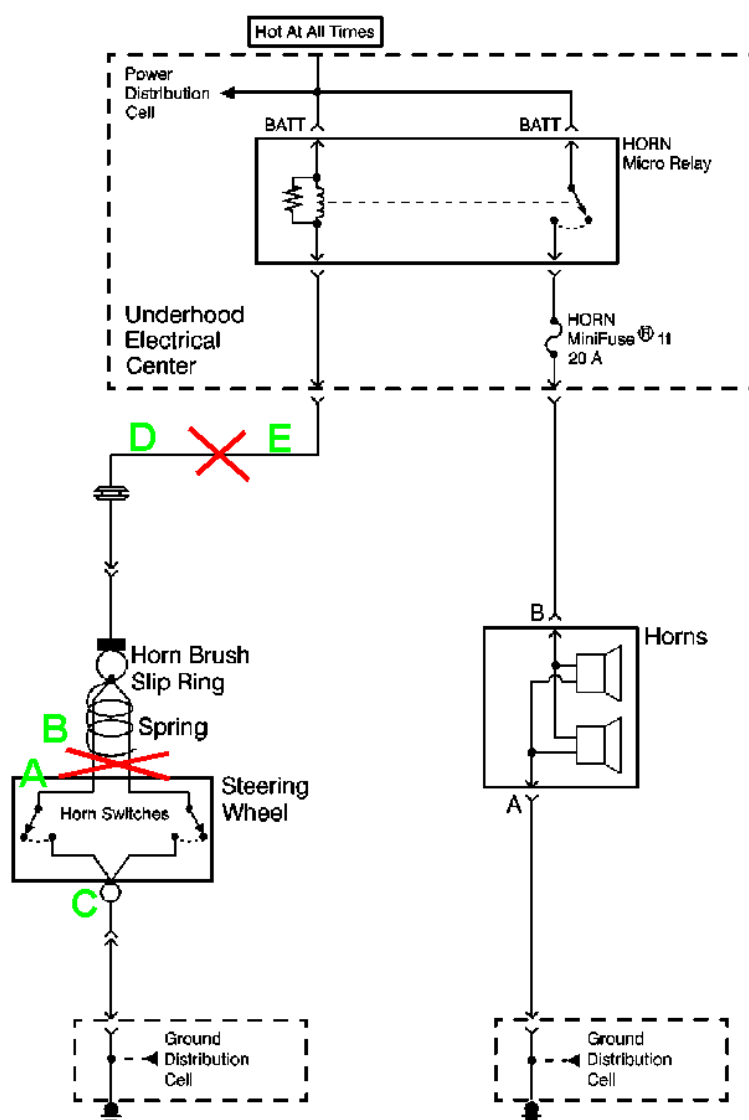

Figure 14: Typical Horn Wiring
The use of this paddle shifter assembly without extra wires from the steering wheel to the dash requires the vehicle to be equipped with a typical horn wire that connects the horn button in the steering wheel to the base of the steering column (see Figure 14: Typical Horn Wiring).
When taking the steering wheel off for mounting the paddle assembly, disconnect the wire that connects the horn button (A in Figure 14) with the slip ring (B). This is typically a red wire that is connected to the horn button terminal with a female spade connector. Also disconnect the ground wire from the horn button (C). This is typically a black wire connected to the horn button with a female spade connector. Refer to section 4.5.2.2.1 Connect OneWire Circuit for instructions how to rewire this part.
2. Disconnect the wire or cut it if it is not possible to disconnect it. This separates the points **D** and **E** in Figure 14: Typical Horn Wiring.